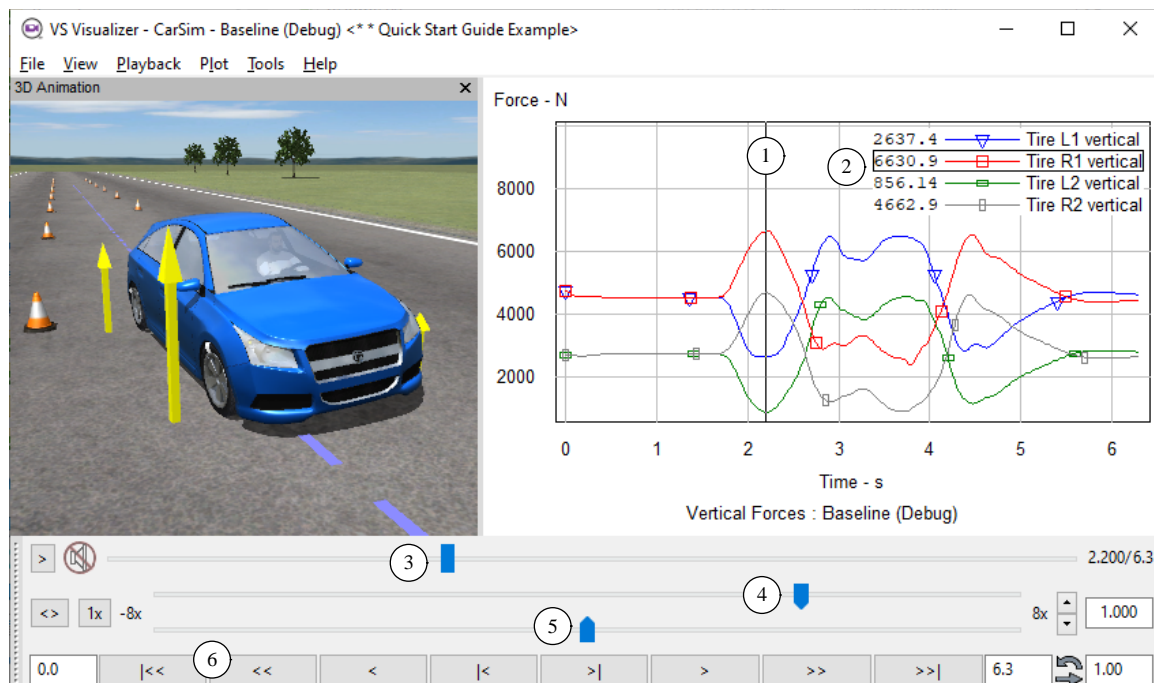

Figure 11. VS Visualizer interactive controls.
Any plot can be quickly expanded to view details (Figure 11). For example, a vertical line indicates the current time stamp (1) with corresponding animation, and digital values are shown in the plot